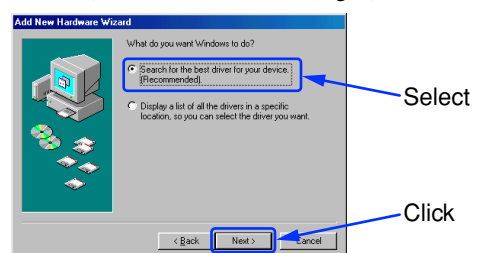

Fig. 3
- Select [Search for the best driver for your device. (Recommended).] and click [Next >]. (Fig. 3)